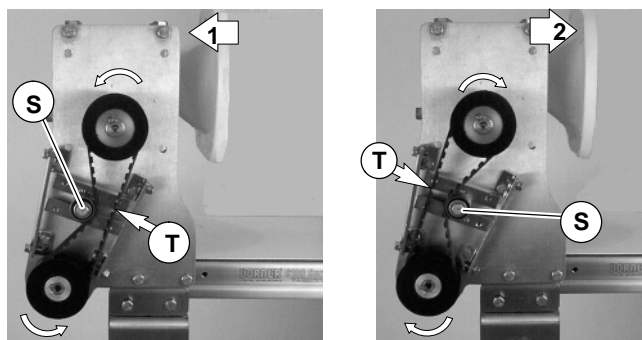

Figure 19
5. Depending on conveyor belt travel (1 or 2 of Figure 19), locate timing belt tensioner (S) as shown. Tension timing belt to obtain 1/8" (3 mm) deflection for 1 lb (4.3 N) of force at timing belt mid-point (T). Tighten tensioner to 38 ft-lb (51 Nm).